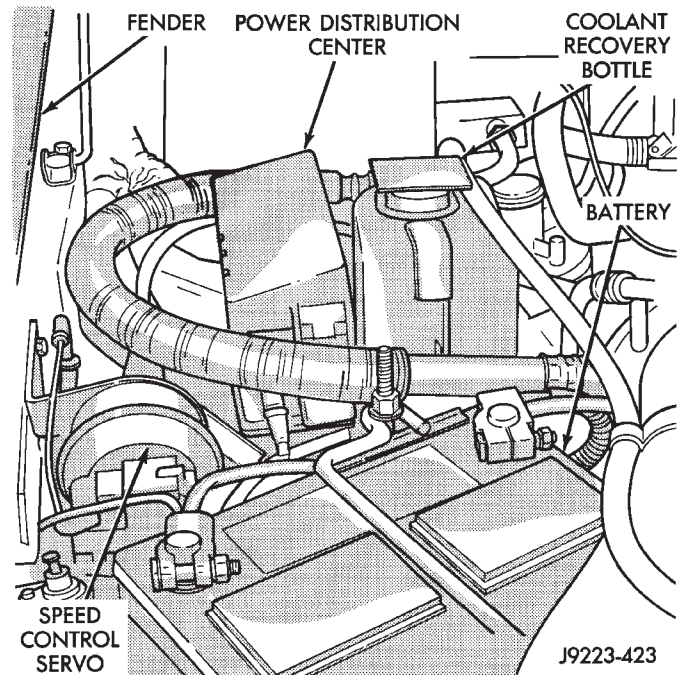

Fig. 36 Battery, Speed Servo, PDC & Coolant Recovery Bottle
- remove the battery and tray from the fender inner panel (Figs. 36, 37 and 38);